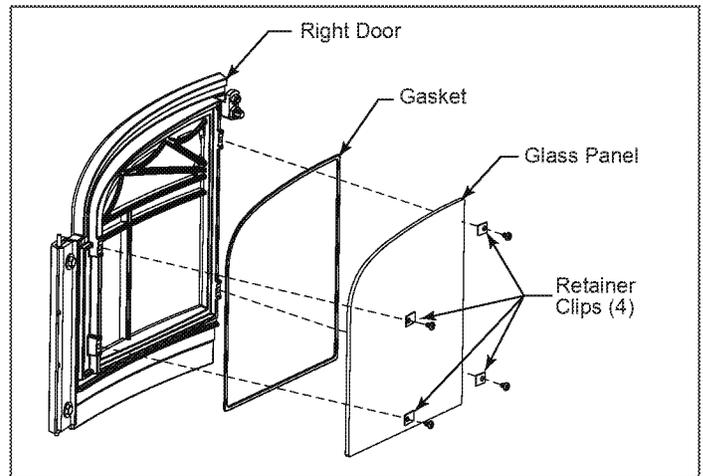

Figure 2.11 - Exploded view of the glass assembly for the right door.
2. Secure the glass on both doors with the retainer clips. Tighten all screws. (Figure 2.11)